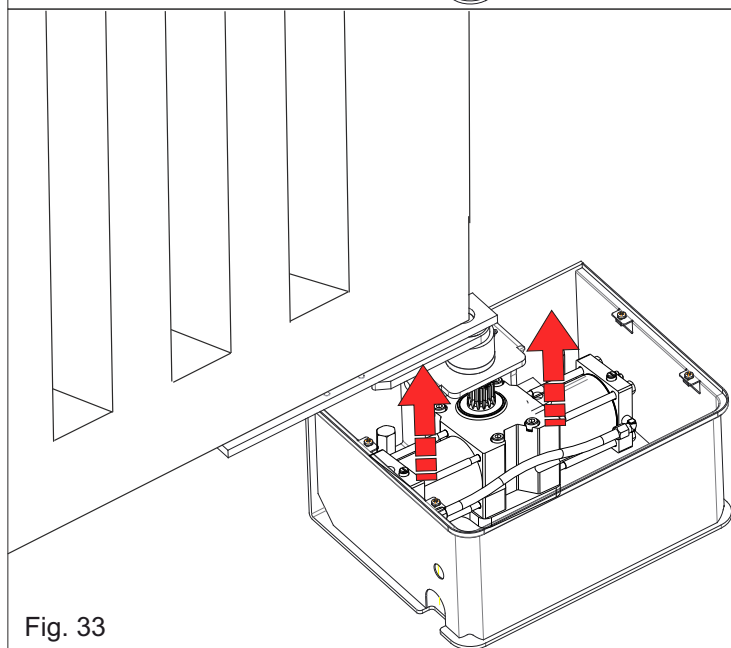

Fig. 33
- 8.3.** Lift the operator and insert its shaft inside the box shaft (Fig. 33)